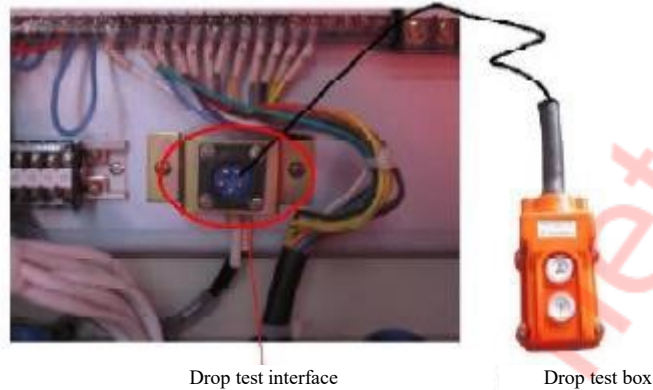

Figure 1.6-1 Interface of Drop Test
(1) Increase the height of mast to about 15m, and install a mast tie at the position about 9m away from base frame 9m (applicable to SC construction hoist) or 6m and 12m from base frame respectively (applicable to SC industrial hoist);
(2) Load the rated weight on the hoist;
(3) Cut off the main power supply of power box on base frame base enclosure, use the test cable to short-connect the inching switch of overspeed safety device, and as indicated in Figure 1.6-1, insert the drop test box (5-core aviation plug) into the interface in electrical control cabinet;
(4) Pass the drop test button box through the door and place it on the ground, and ensure that in the course of drop test, the cable will not be jammed, and close all doors;
(5) Turn on the main power switch; press down the button “UP” on the drop test button box so as to move the drive system to about 10m above the ground 10m (Please ensure that the drive system will not go beyond the top);
(6) Press down and hold the “drop” button, and then the cage will drop freely. After it drops for a certain distance, the overspeed safety device will act so as to lock up the cage. Under normal circumstance, the braking distance of cage is 0.15-1.40m. In case of any special circumstance, please contact the Company;